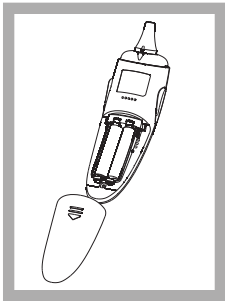

Figure 14
3. Remove battery and install 2 new AAA alkaline batteries as shown in Figure 14.